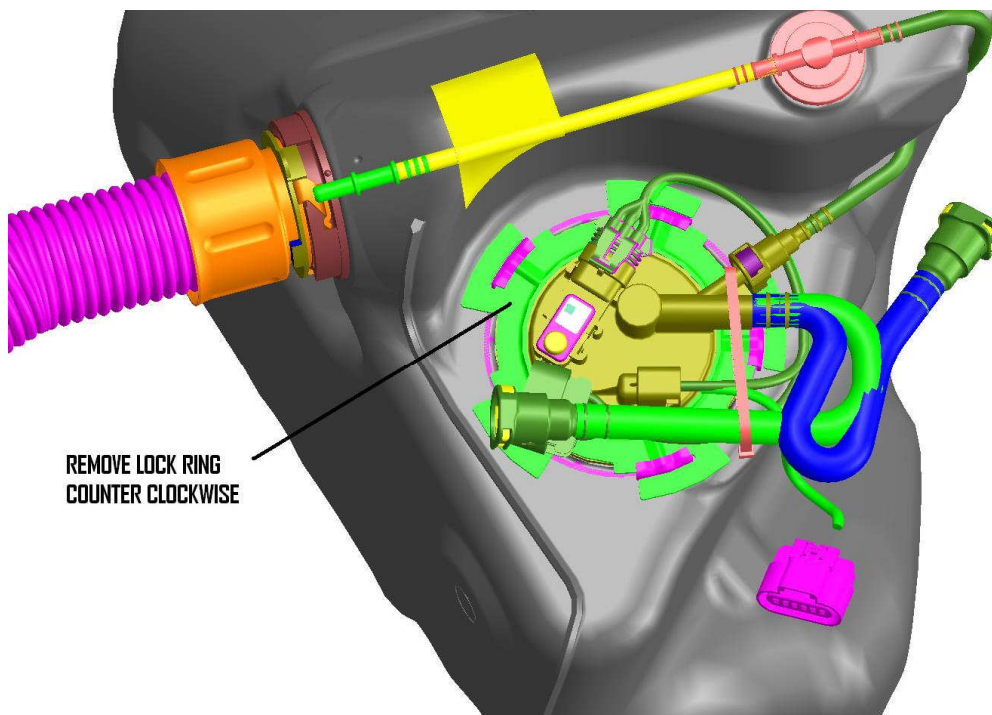

FIGURE 1-3
11. Remove the lock ring from the passenger side tank. The unit is spring loaded and will pop up once the ring is removed. **FIGURE 1-3**